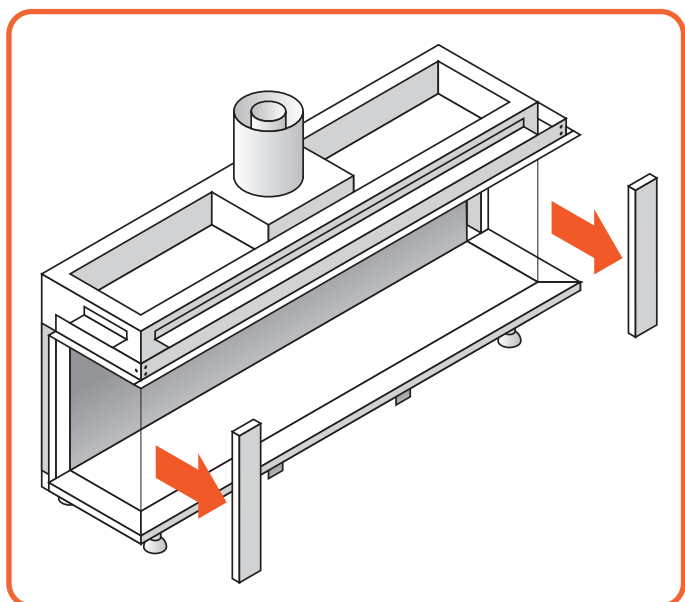
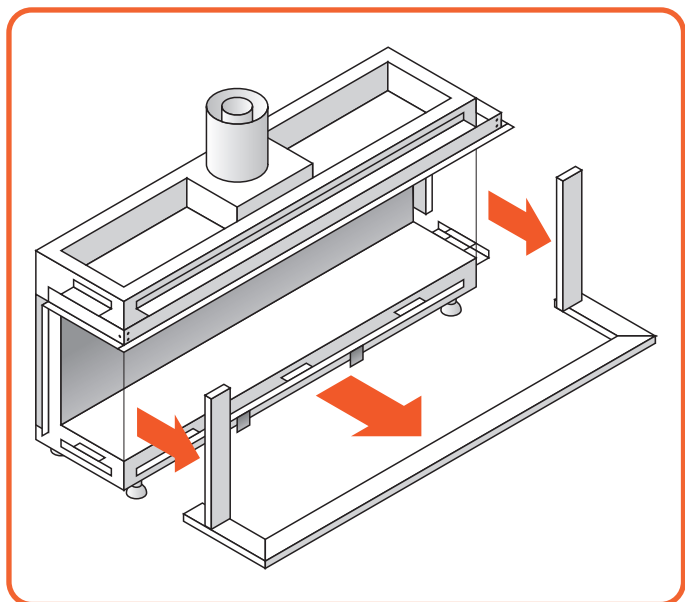

Figure 11.2 | Remove side trims
Figure 11.3 | Remove Lower Trims
- Remove both the side trims and bottom trim. They are held by magnet snappers, Figure 11.2 & Figure 11.3.